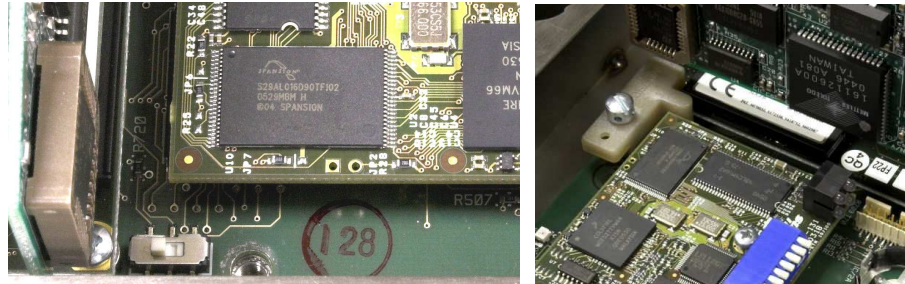

Figure 2-73: Metrology Security Switch (left) and Cover Installed (right)
2. Install the Security Cover to prevent access to S1, the Metrology Security Switch indicated in Figure 2-73, Main PCB Switches.